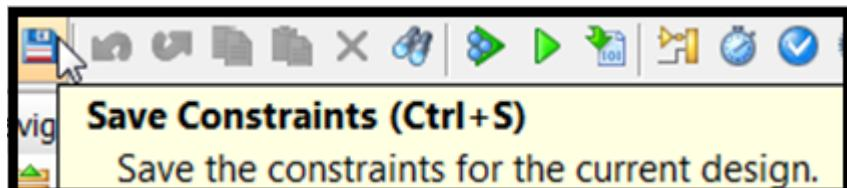

Figure 36: Save Constraints Option
8. In the main Vivado toolbar, click the **Save Constraints** button to save the design after you insert the debug cores, (Figure 36).